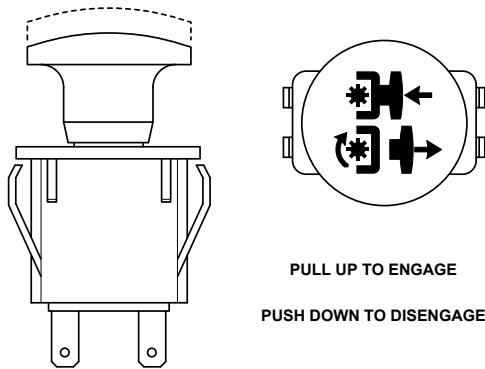

Figure 4-4. Cutter Engage Switch
2. Engage the deck drive by pulling out on the yellow switch, located on the instrument panel, to the engage position. See Figure 4-4.